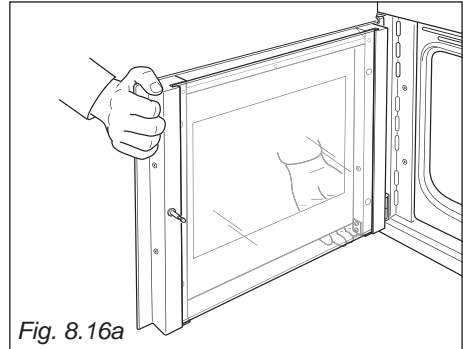
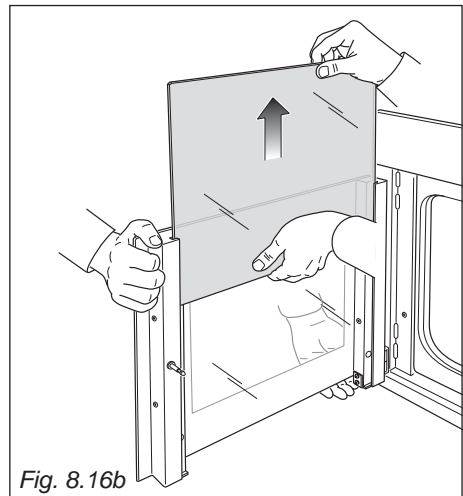

Fig. 8.16a
Fig. 8.16b
When removing and replacing the inner glass, the door should be held still by one person (fig. 8.16a). A second person should gently remove the glass (fig. 8.16b).
- Gently pull out the inner pane of glass (fig. 8.16b). Forcible removal of the door glass may lead to damage of the door hinges.